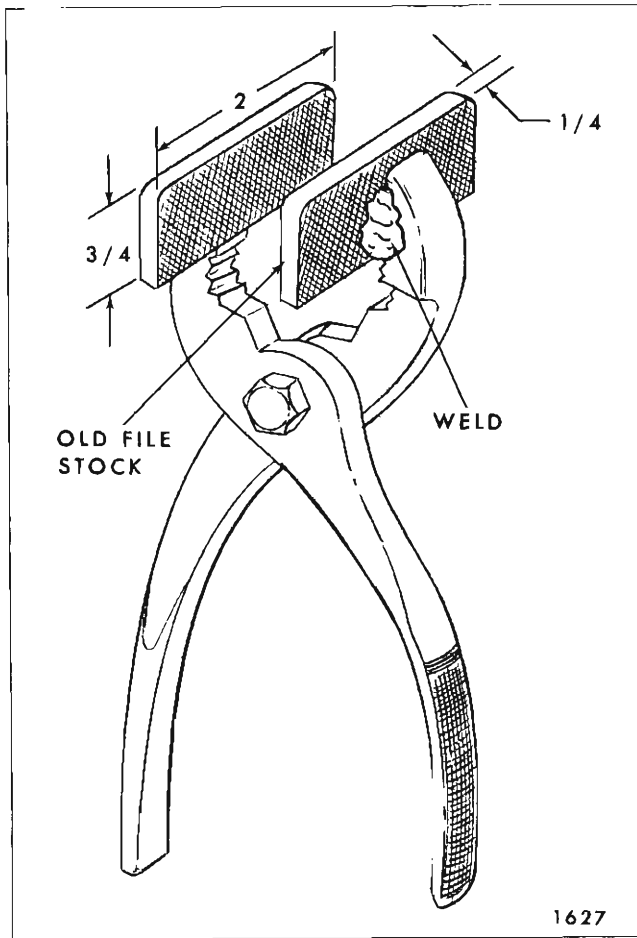

Fig. 2J1—Fabric Cover Pliers
**NOTE:** Where new cover is installed at temperatures below 72° F, pliers fabricated as shown in Figure 2J1 will aid in removing wrinkles.